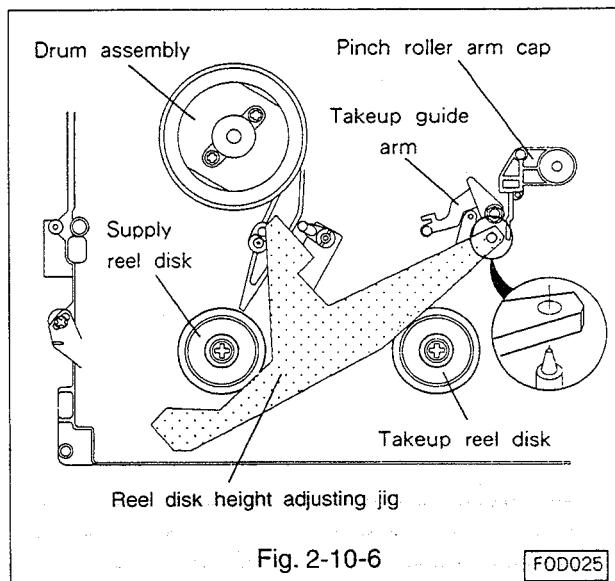

Fig. 2-10-6
J. Place the reel disk height adjusting jig(Part Number 859C342O20) in the reference position on the main plate.(Refer to Fig. 2-10-6.)
- E. Place the reel disk height adjusting jig(Part Number 859C342O20) in the reference position on the main plate. (Refer to Fig. 2-10-6.)
- B. Place the reel disk height adjusting jig(for the F deck) in the reference position on the main plate(Refer to Fig. 2-10-6). Insure the takeup guide arm is level with point B of the height adjusting jig(for the E deck). (Refer to Fig. 2-13-2.)